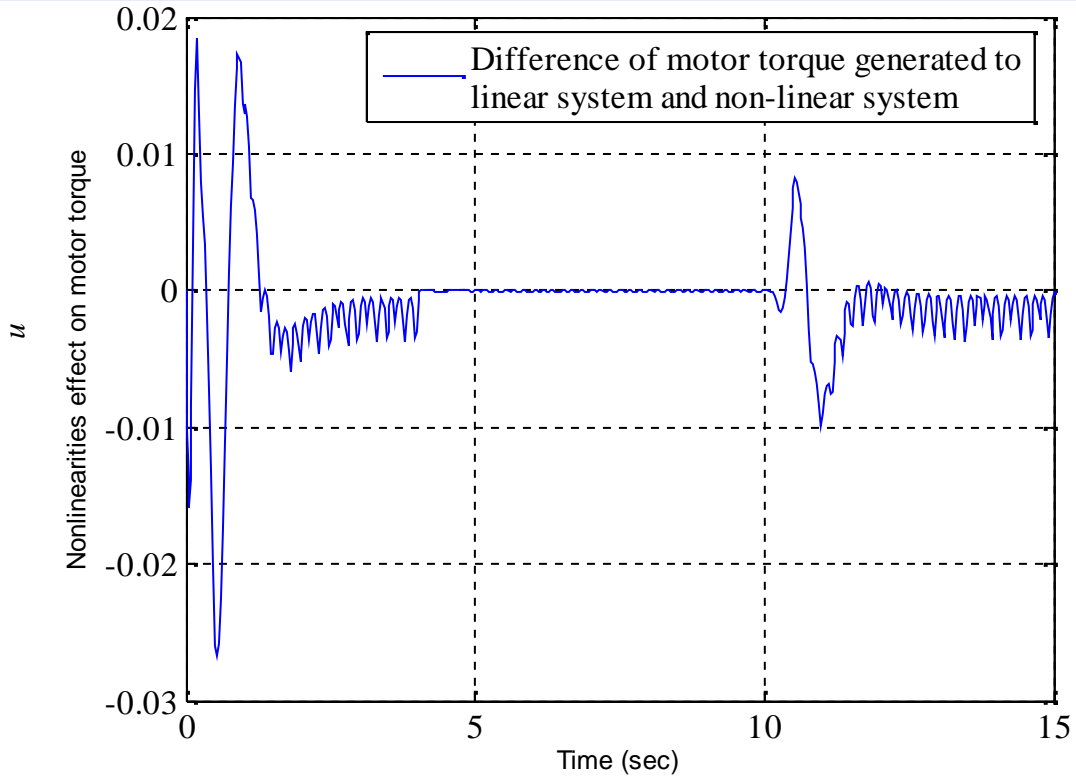

Figure 4.10 Nonlinearities effect on motor torque with time
- Very small differences between linear and nonlinear model behavior (Figure 4.10, 4.11, 4.12).